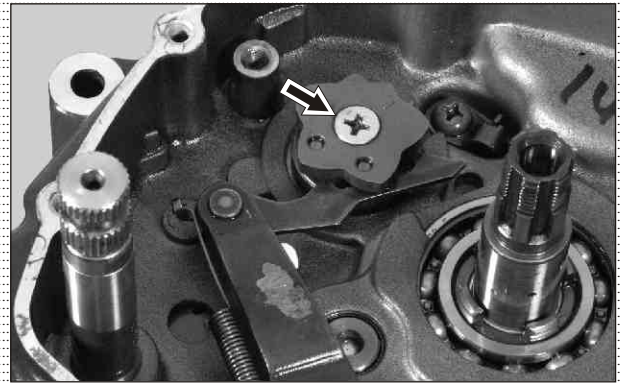

Fig. 3.58
- Remove recessed CSK head screw (M6x16 - 1 no) from the index star mounting and take out index star. (Fig. 3.58)